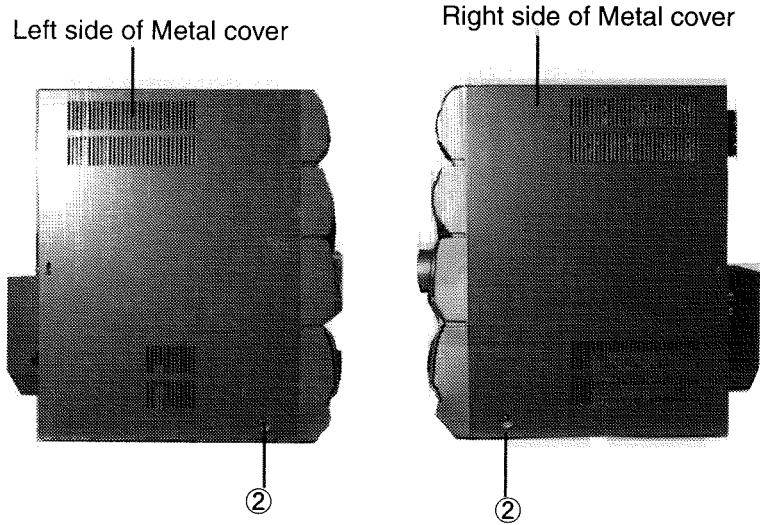

Fig.2
2. Remove the two screws ② fastening the metal cover to the side panel of the main unit. (See Fig.2)